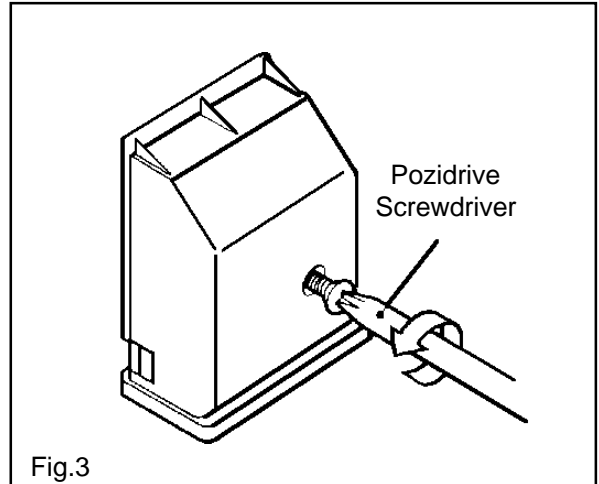

Fig.3
- First remove retaining screw with pozidrive screwdriver. See Fig. 3.